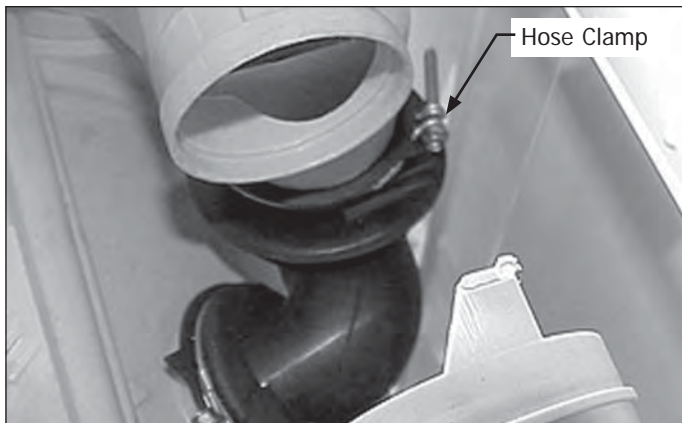

Figure 4-63.
4. Disconnect the detergent dispenser outlet hose. (See Figure 4-63)